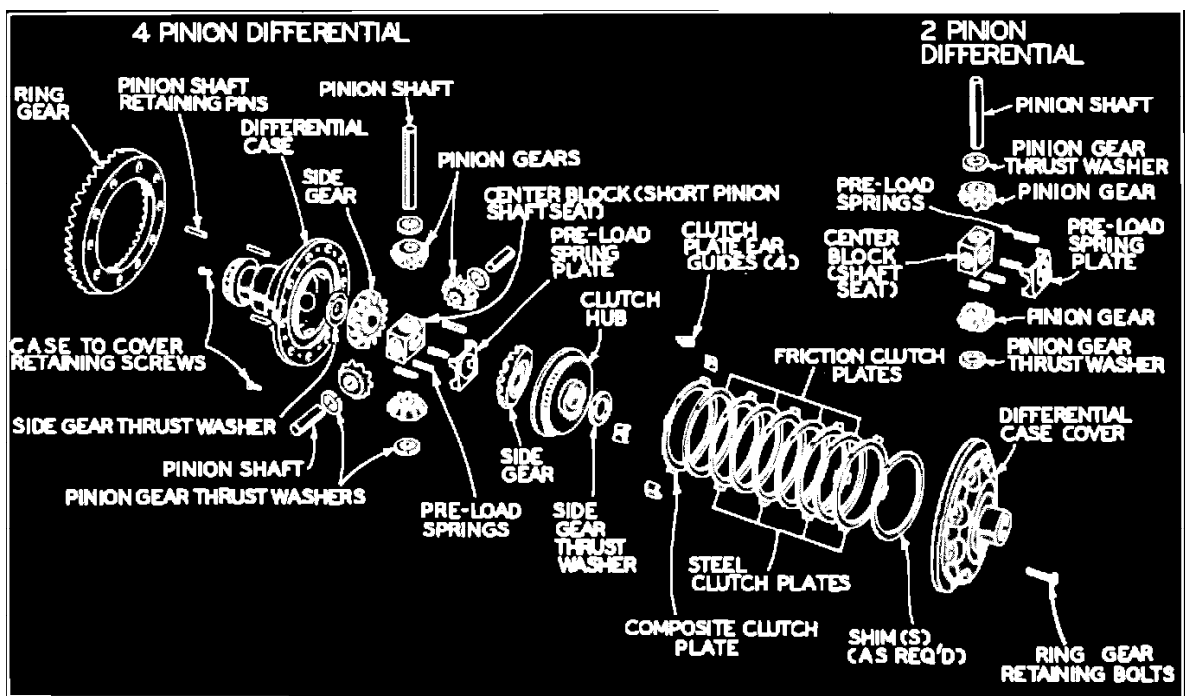

Fig. 2 Ford Traction-Lok Limited Slip Differential
1. Referring to Fig. 2, remove ring gear to differential case bolts. Remove ring gear.